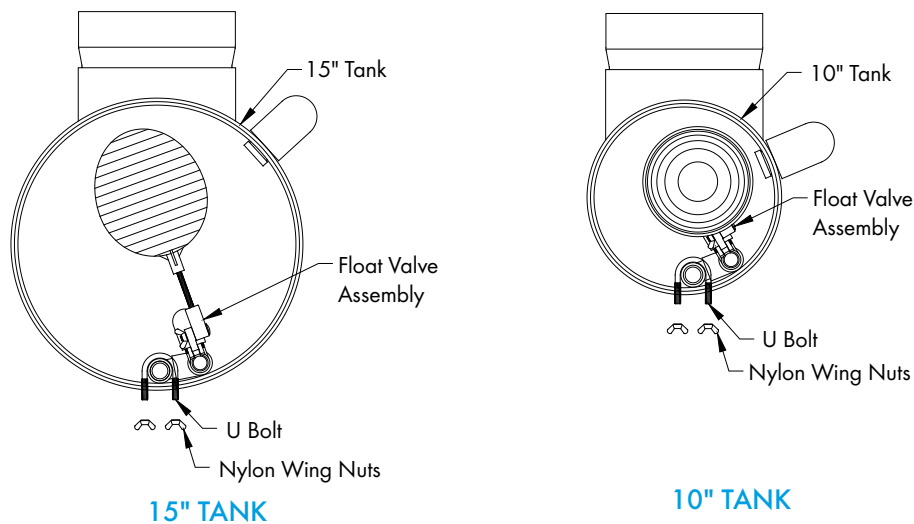

Figure 22D
Slide the Float Valve Assembly into the Tank Kit Tee approximately $18\frac{3}{4}$ " for the 15" Tank and $25\frac{1}{4}$ " for the 10" Tank. Fasten in place using (2) U-bolts and (4) Nylon Wing Nuts. See Figures 22D and 22E.